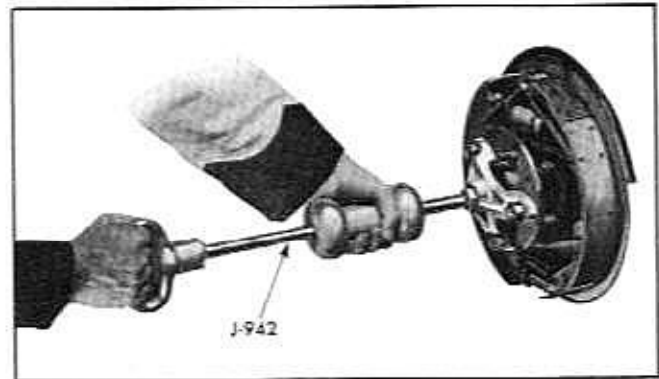

Fig. 4-7 Removing Axle Shaft With Puller J-942
5. Remove axle shaft, using Puller J-942, if necessary (Fig. 4-7). Do not dislodge backing plate or brake pipe may be damaged.